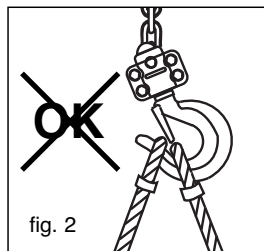

fig. 2
1. Check that the bravo™ hoist is properly suspended by its suspension hook (item 5, fig. 1) and that the hook safety catch (item 6, fig. 1) is properly closed (see figs 2 and 3).
1. the anchoring accessory of the load sits fully in the hook and does not prevent the catch from closing correctly (see figs. 2 and 3).